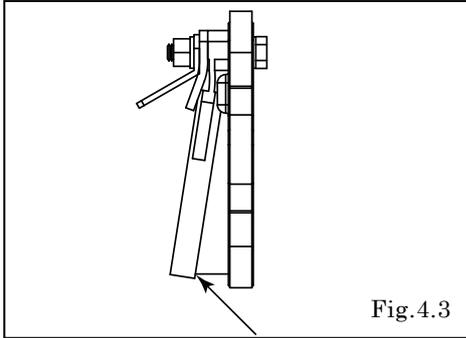

Fig.4.3
- If there is a gap between the flap valve and valve seat, replace it. [Fig.4.3]